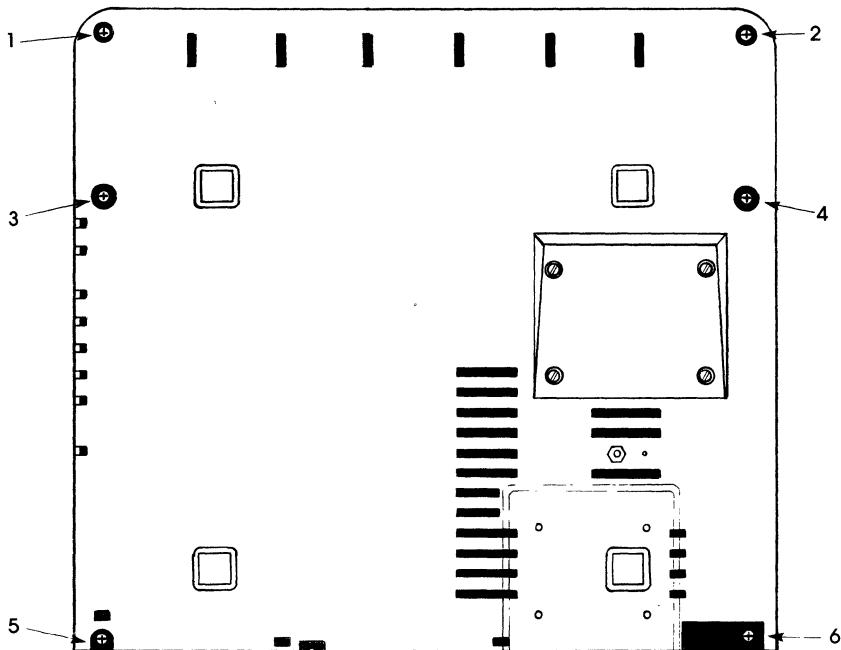

Figure 6-12
- 3) Remove mounting screws. To reach the mounting screws on the bottom of the ADVANTAGE grasp the unit firmly and carefully turn it upside down. Unscrew the four mounting screws near the front of the base (1 through 4 in Figure 6-12). Unscrew the remaining two mounting screws, which are recessed at the back of the unit (5 and 6 in the figure). When the screws are removed, grasp the unit firmly and carefully return it to the upright position.